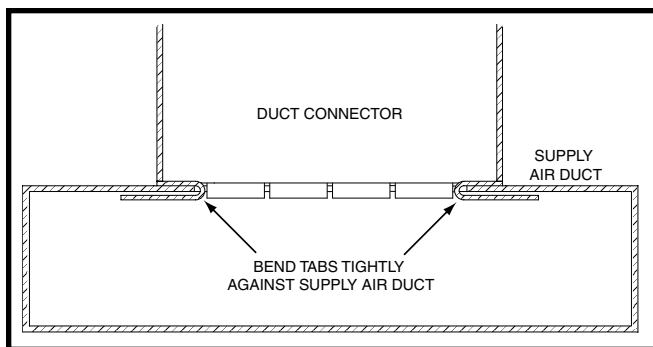

Figure 10. Duct Connector Tabs
8. Bend both tabs up 90° on the mounting plate. See Figure 10 \(page 10\).